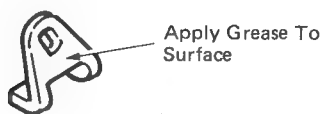

Figure 6
5. (Carrier Return) The suggested procedure is as follows: Install sleeve inside roller. Apply grease on locking plate (Figure 6).